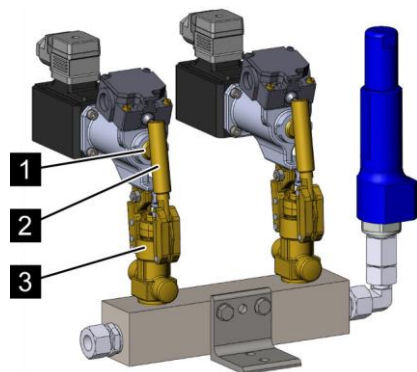

Fig. 107: Mounting the EM release device
6. ➔ Unscrew the valve lever (Fig. 107/2) from the valve (Fig. 107/3) of the distributor block.
7. ➔ Ensure that the EM release device is not tensioned, i.e. that the release pin (Fig. 107/1) is projecting.